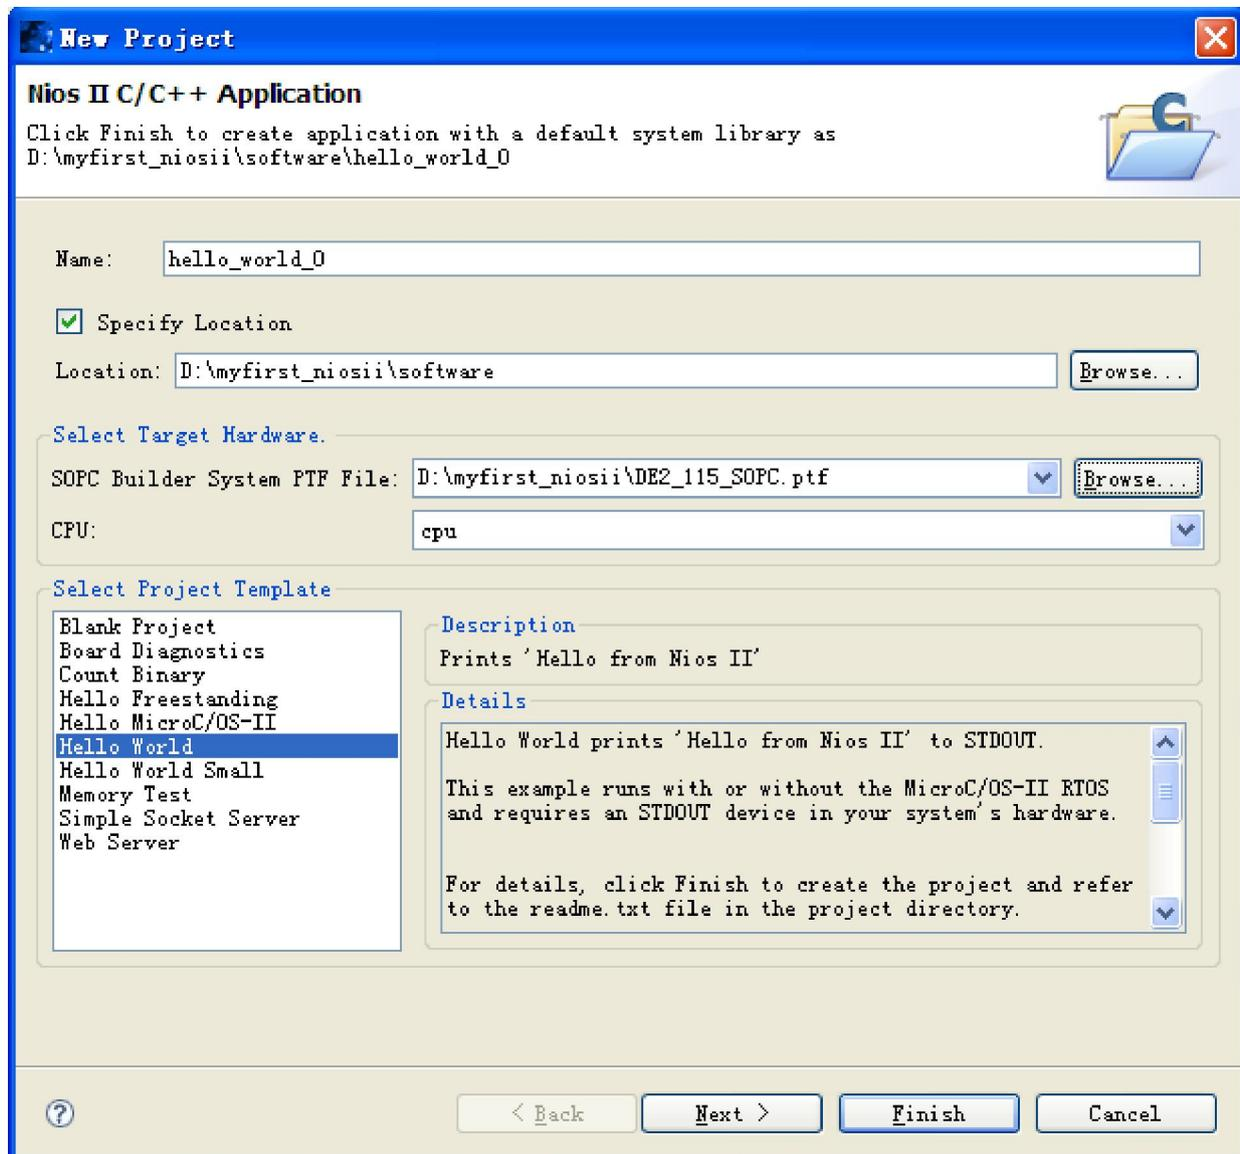

Figure 2-3 Nios II IDE New Project Wizard
- Select the target hardware system PTF file that locates in where the previously created hardware project resides as shown in Figure 2-3.